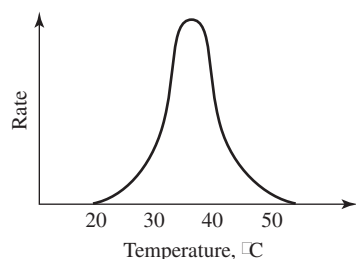

Figure 41.4
product. However, once an optimal temperature is reached, the rate is at a maximum and the enzyme shows its greatest efficiency. Any further increase in temperature will lead to a decrease in the rate (Figure 41.4). The decline comes about because temperature affects enzyme conformation. Enzyme and substrate no longer fit together properly, so the rate leading to product falls. Consider some practical application of these effects: (1) deactivation of enzymes at low temperature is the reason refrigeration works in the preservation of food; (2) sterilization in an autoclave works because bacterial proteins and enzymes are denatured at elevated temperatures and are deactivated.